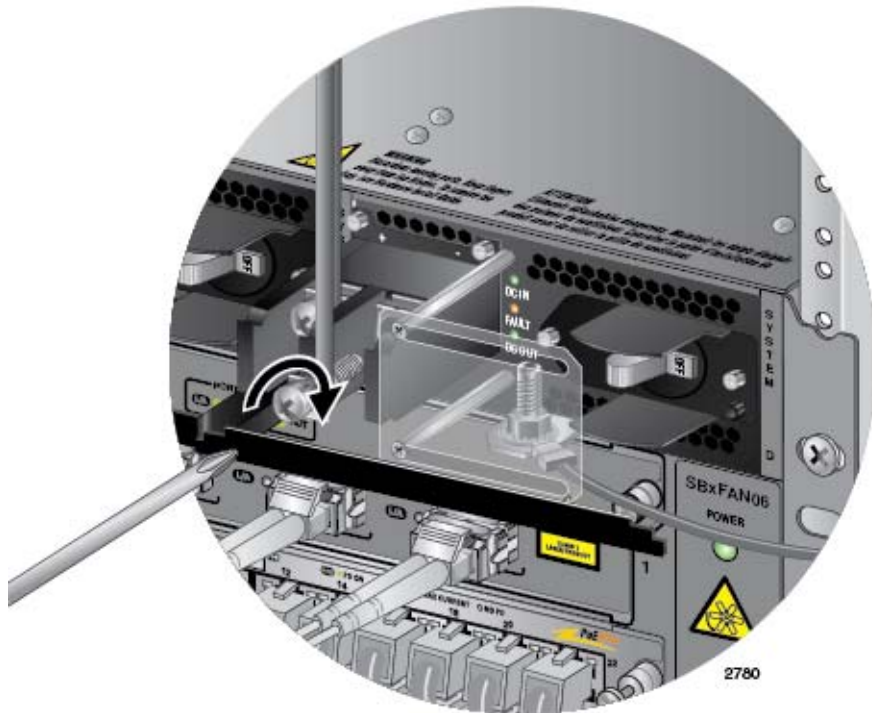

Figure 153. Connecting the Negative Lead Wire
6. Wrap the negative lead wire clockwise around the remaining terminal screw and secure the screw and wire to the negative terminal connection on the terminal block with a #3 Phillips-head screwdriver, as shown in Figure 153 on page 211. The negative terminal is on the right.